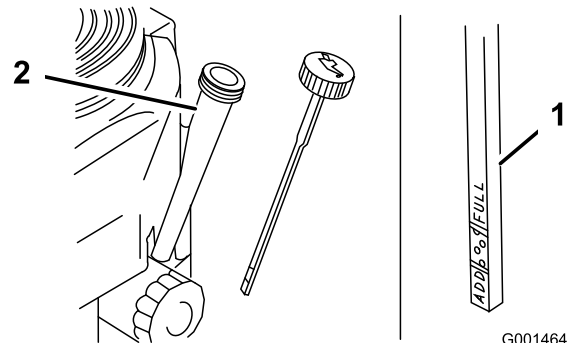

Figure 32
- Clean around the oil dipstick (Figure 32) so that dirt cannot fall into the filler hole and damage the engine.
- Unscrew the oil dipstick and wipe the end clean (Figure 32).
- Slide the oil dipstick fully into the filler tube, but do not thread onto tube (Figure 32).
8. Slowly pour approximately 80% of the specified oil into the filler tube (Figure 32).